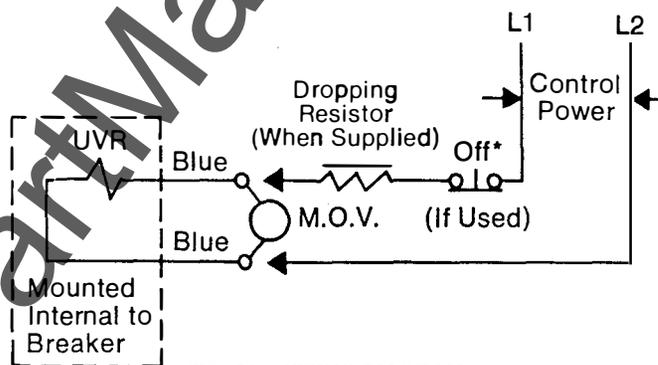

FIG. 31. WIRING DIAGRAM
12. Mount the dropping resistor (when supplied) and M.O.V. (Fig. 30). Wire as shown in Fig. 31.